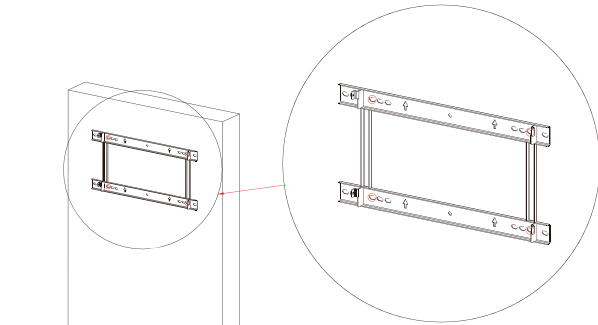

Figure 2.8 Stand Positioning
**Step 3** Place the wall bracket on the wall where the system will be installed. And use a marker to locate the bracket as shown in Figure 2.8.